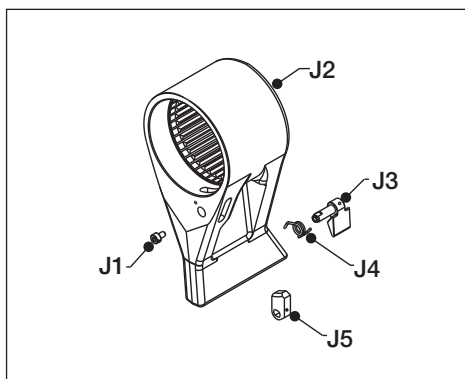

Fig. 26
- Reaction Arm (Fig. 26, item J2)
#### 5.3.9 Reaction Arm Latch - Disassembly and Reassembly (Fig. 26)